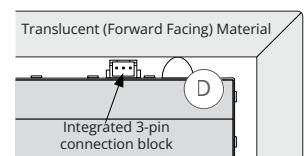
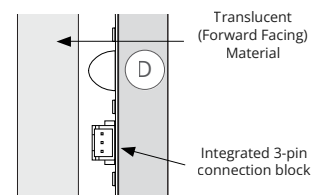

Figure 4
Figure 5
Rated for 400 lbs each, the domed protective bumpers (D) included with each Light Sheet have been engineered to bear the weight of translucent materials in horizontal applications and act as a safeguard in vertical applications so that the forward facing material does not harm the Light Sheet's integrated connection blocks or LEDs. Evo-Lite recommends using eight bumpers per Light Sheet (approximately six per square foot), spacing them evenly to distribute the weight of the forward facing material (see Figure 4) and to add a level of protection in vertical applications when the forward facing material will be positioned near the Light Sheet (see Figure 5). A rigid, non-deforming mounting surface/substrate must be used with any weight bearing applications to avoid damaging the Auragami Light Sheet.